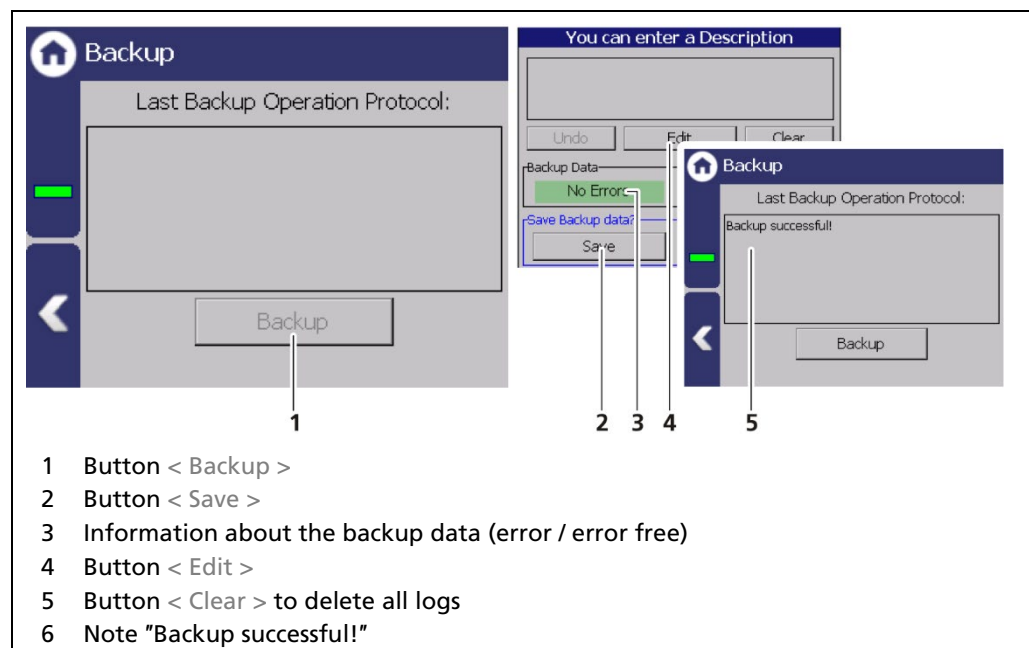

Fig. 130 Backup
2. The USB storage device is recognised by the system after a few seconds and the button < Backup > (Fig. 130, item 1) can be clicked.
3. Click on the button < Backup > (Fig. 130, item 1).
- ▶ The message "Error free" (Fig. 130, item 3) appears in the field "Backup data" for error-free backup files.
- ▶ The message "Backup successful!" appears after a successful copy process (Fig. 130, item 6).